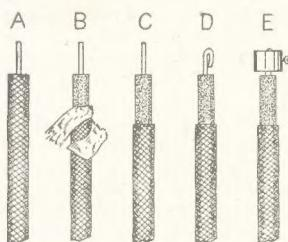

Fig. 1—Stages in preparation
The illustration at Fig. 1 indicates the stages of preparing a single stranded conductor end. In view (A), the insulation is shown trimmed back right up square with the rubber and outer covering of tape and bading. This idea is not a good one, since the tape and braid tend to set up a certain amount of condensation which must be avoided.